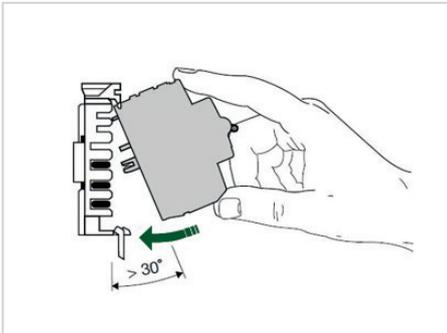

Fig.15: Assembly of a SMISLINE device
– Mount all devices onto the SMISLINE TP system as pictured in Fig.15